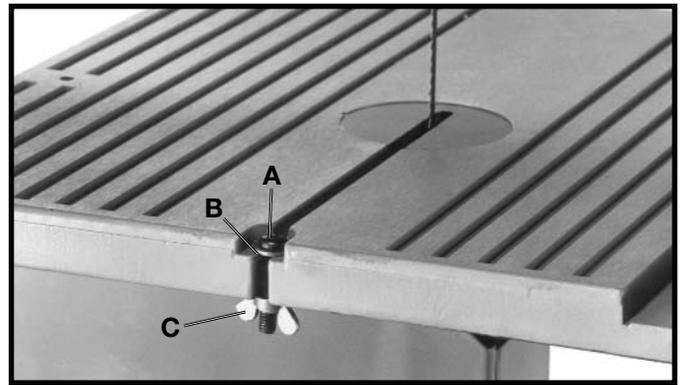

Fig. 10
4. Place a M6.4 flat washer (B) Fig. 10, onto a M6x1x30mm cheese head screw (A), and insert screw slot in table. Thread a M6x1 wing nut (C) Fig. 10, onto the screw and tighten securely.